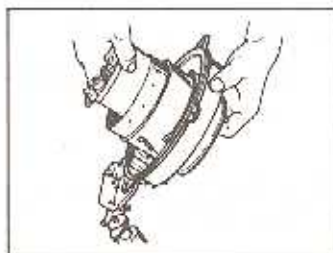

Fig. 17
- (8) Remove the wick holder assembly (Fig.17).